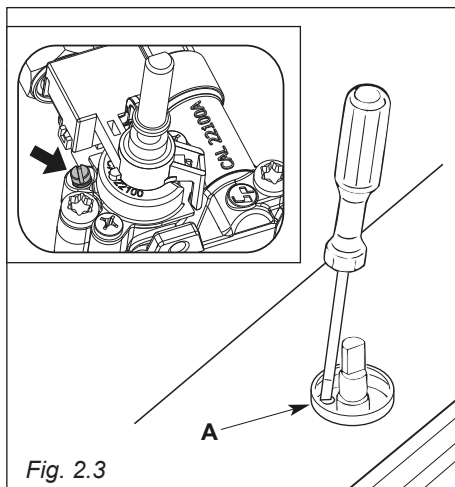

Fig. 2.3
- With a small flat screwdriver turn the screw “A” to the correct regulation (figs. 2.3).